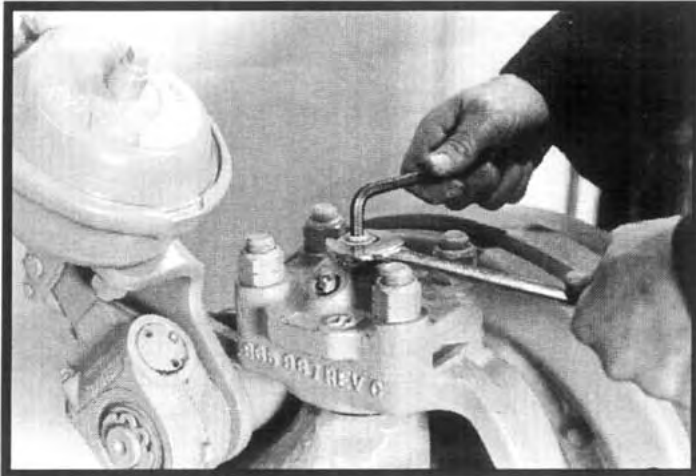

Figure 4
- Loosen the upper kingpin adjustment jam nut and back out the adjusting screw four full turns. The drive end assembly will begin to lower as the screw is turned out. See Figure 4.